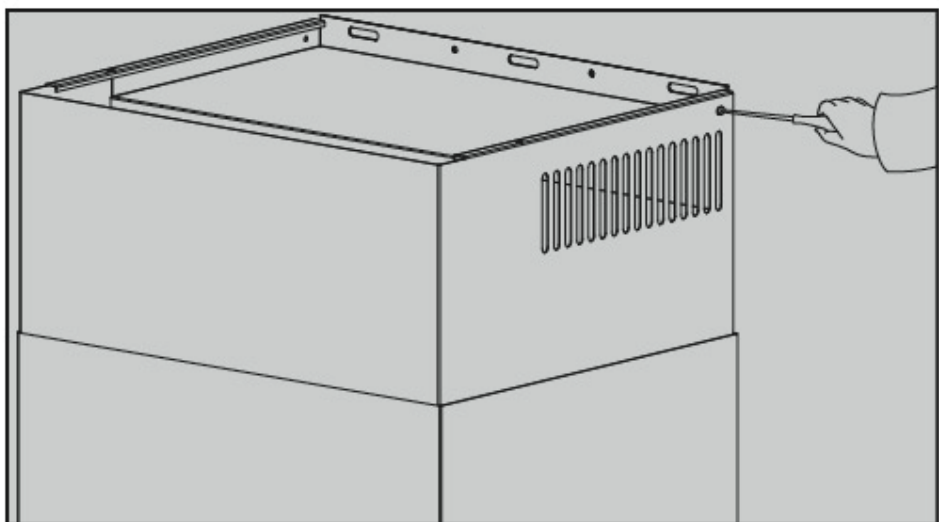

Fig.4
3. Remove the two screws on both sides of the decorative cover, then remove the motor cover and decorative cover(see Figure 4).